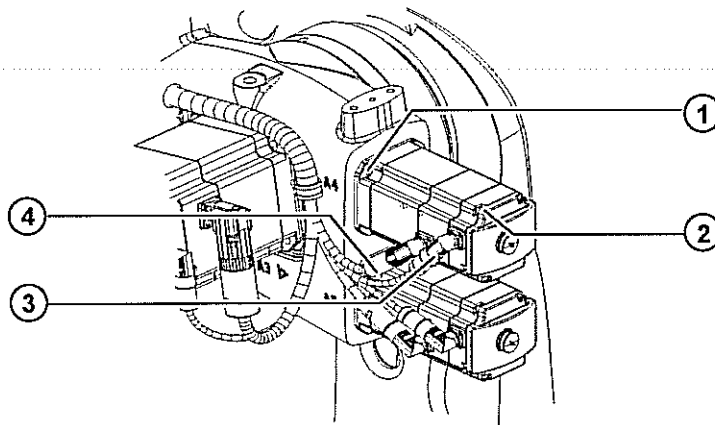

Fig. 12-9: Removing motor A4
1. Release and unplug connectors XM4 and XP4 at the sockets (>>> Fig. 12-9).